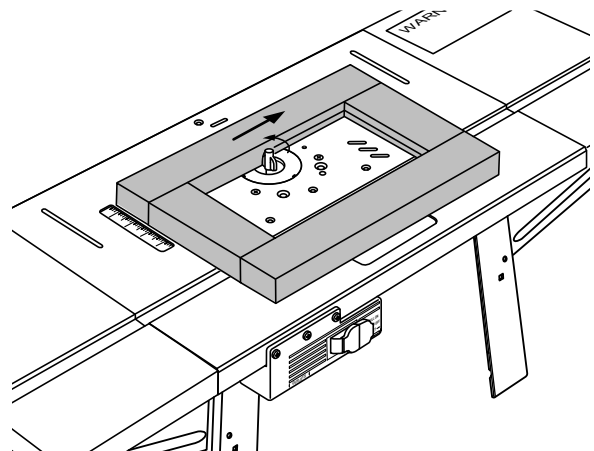

Figure 38
1. Place your workpiece on the table relative to the router bit as shown in Figure 38.